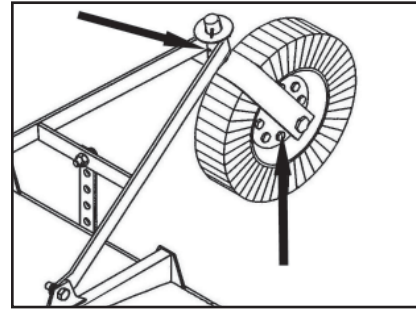

Figure M-1 Grease Points
2. **Every 8 hours** grease wheel fork(s), wheel hub(s), PTO shaft universal joints (2), and PTO telescoping surface. (See Figures M-1 and M-2)